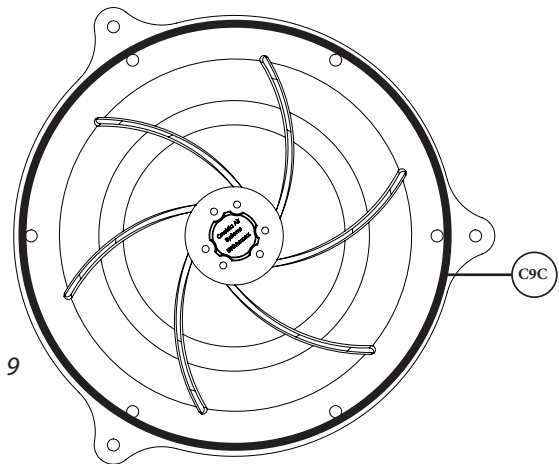

FIG. 9
- 9 Apply the Gasket (C9C) to the motor plate as shown in [FIG 9], making sure that there is no gap where the ends meet.